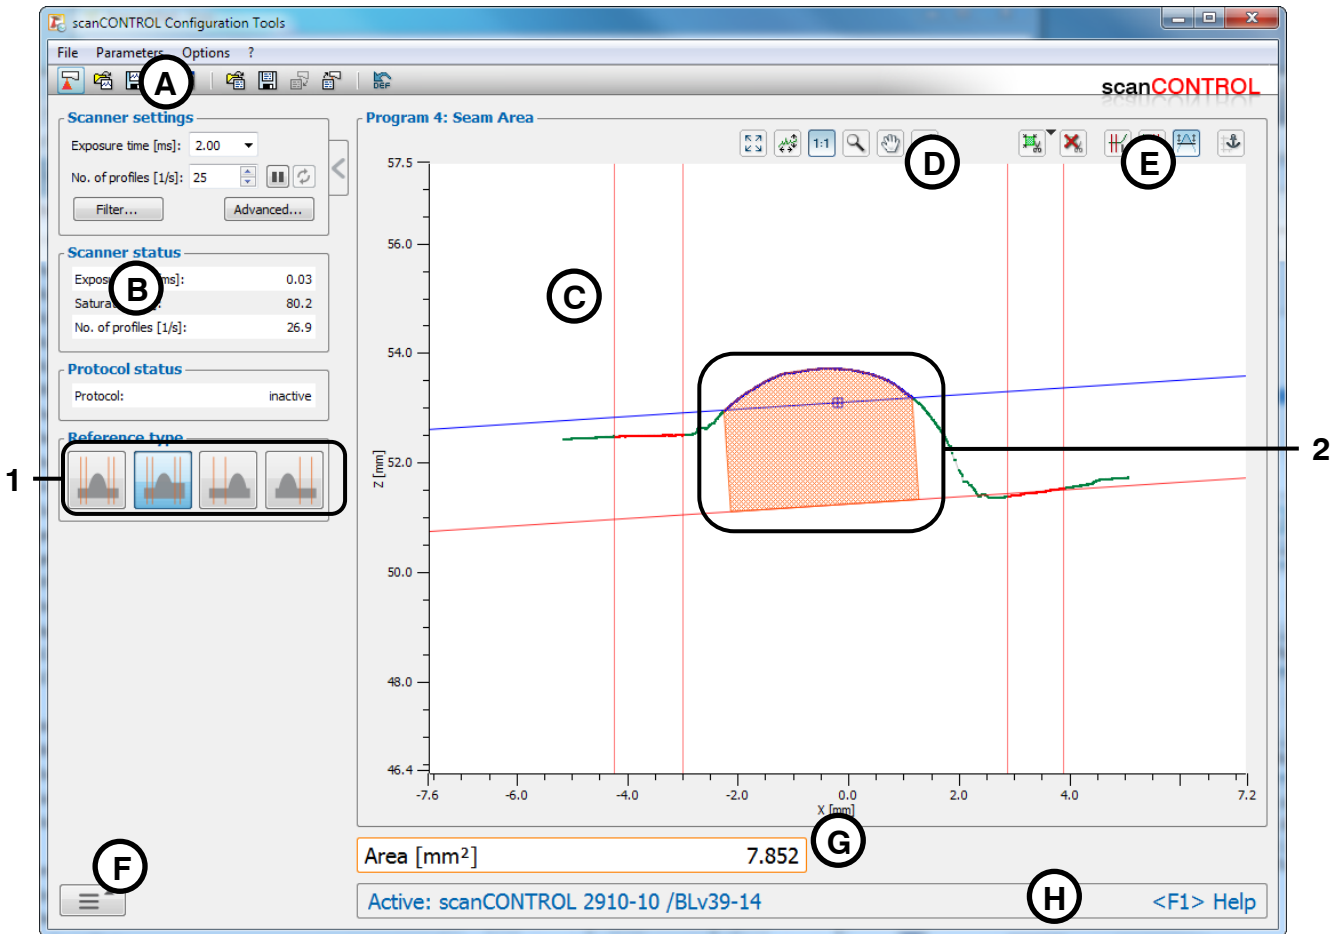

Fig. 4.29: "Seam Area" measuring program
- Define the type of the heightening (see Fig. 4.29 and Chapter 3.13.1):